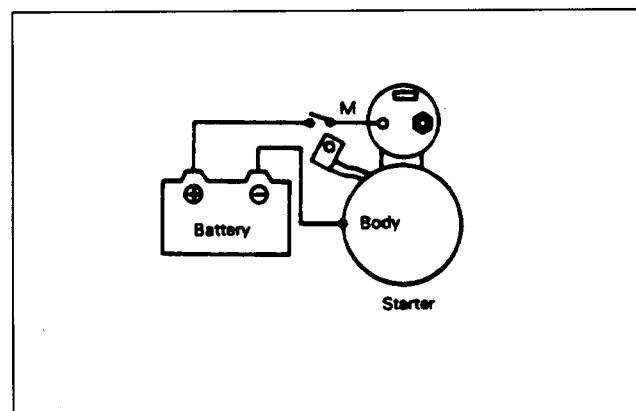

Figure 29
1. Disconnect the wire from terminal "M" (Fig. 29).